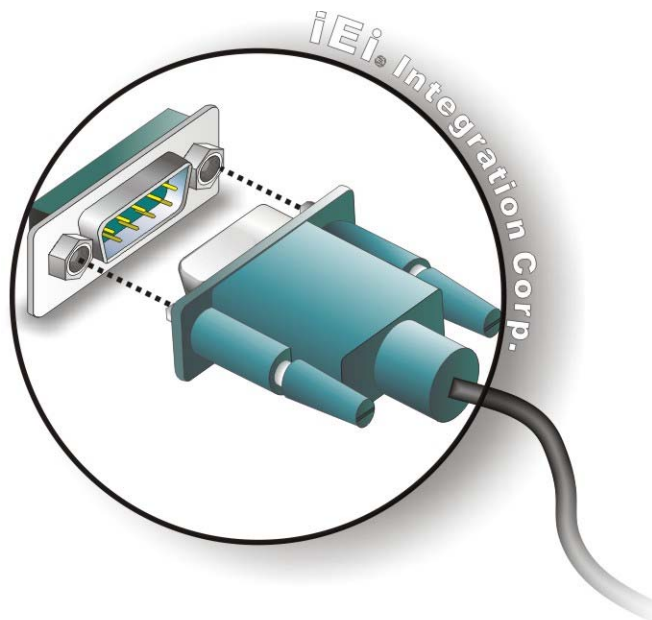

Figure 4-18: Serial Device Connector
Step 2: Insert the serial connector. Insert the D-sub 9 connector of a serial device into the D-sub 9 connector on the external peripheral interface. See **Figure 4-18**.